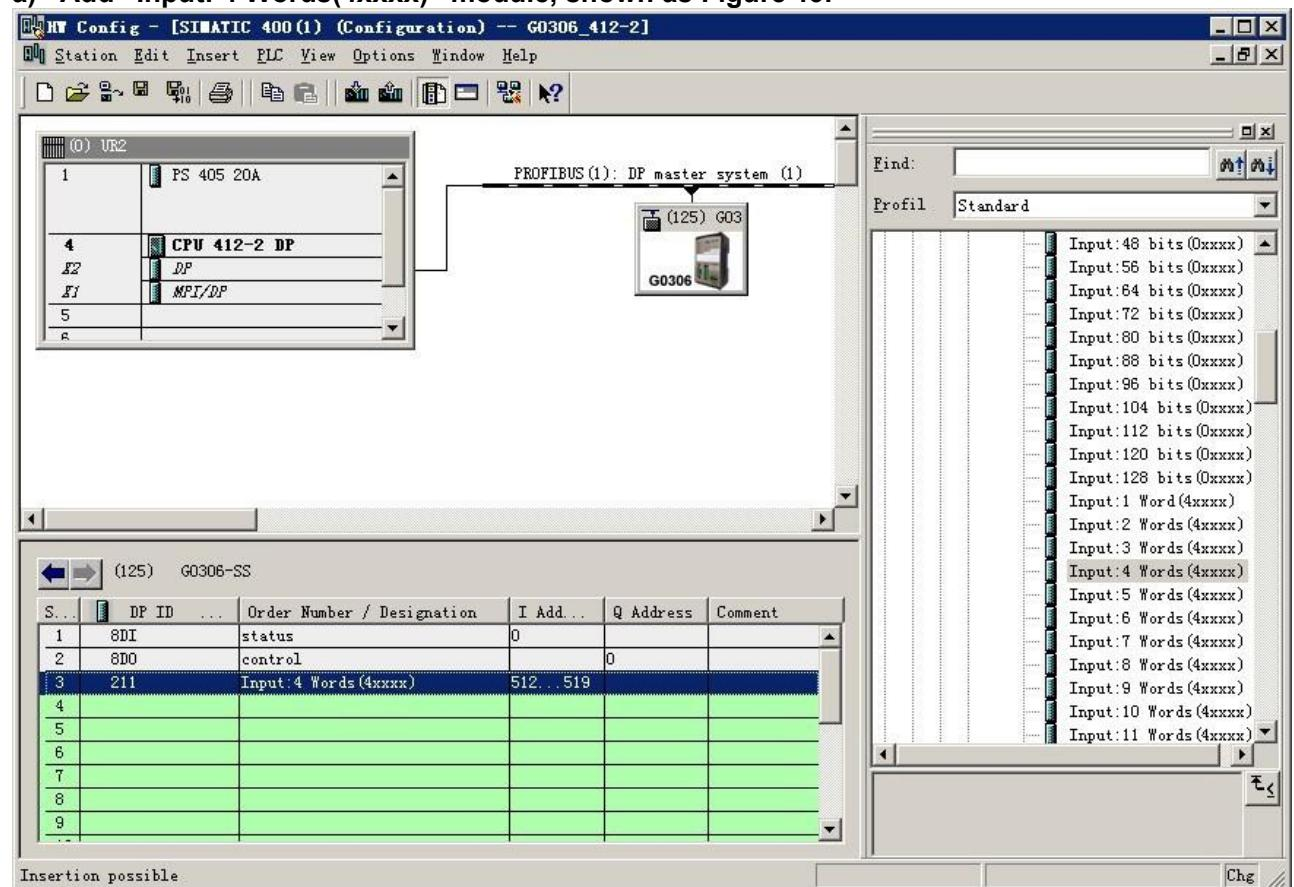

Figure 46 Add “Input: 4 Words (4xxxx)” Module
a) Add “Input: 4 Words(4xxxx)” module, shown as Figure 46: